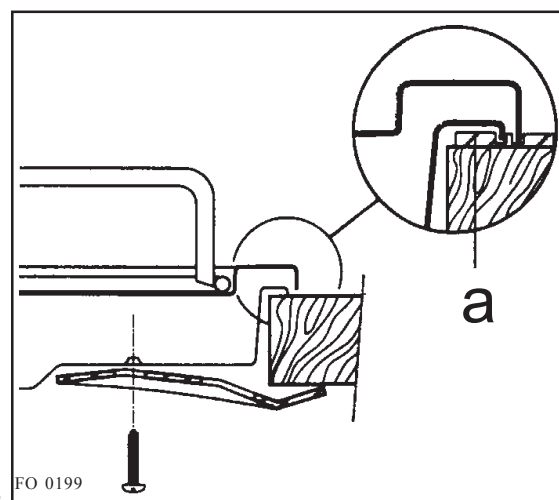

Fig. 3 FO 0199
- 2) Place the hob into the cut out and secure it by means of the relevant fixing clamps and screws, as shown in Fig.3.